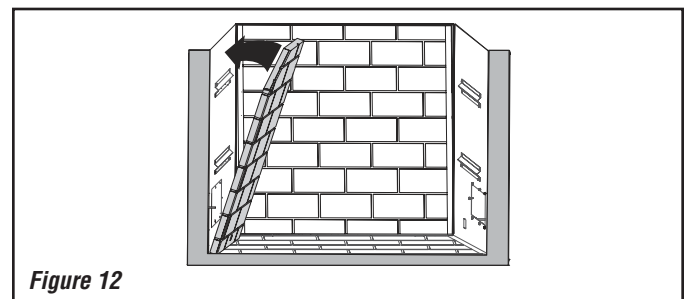

Figure 12
6.2. While holding the **LEFT SIDE PANEL** in the correct position, place the **BOTTOM EDGE** into the firebox first; then push the panel up against the firebox wall (see **Figure 12, below**).